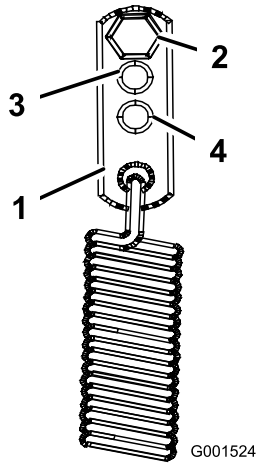

Figure 45
- For a heavier drive setting, relocate the spring anchor links to either the medium or heavy duty positions (Figure 45). The spring anchor links are attached to the upper rear corner of the hydro drive shields on the left and right sides of the machine.
The parking brake lever is on the right side of the machine (Figure 45). If the parking brake does not hold securely, adjust it.